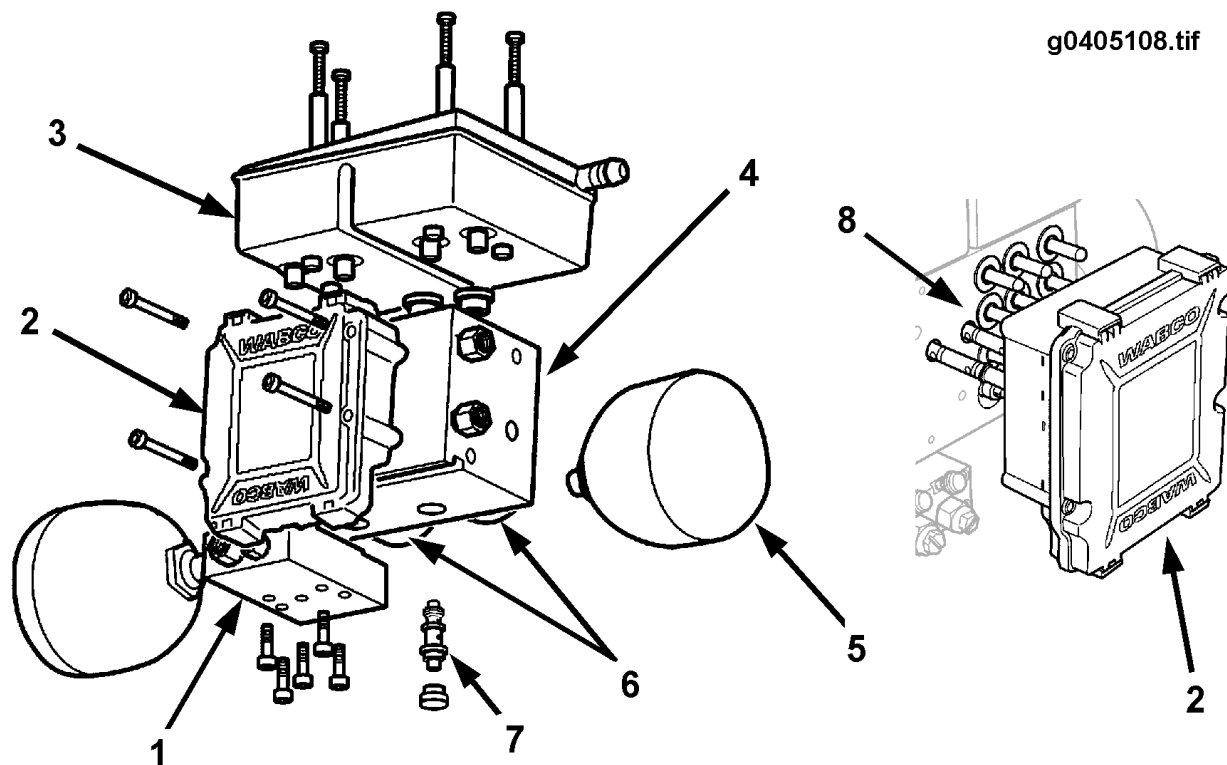
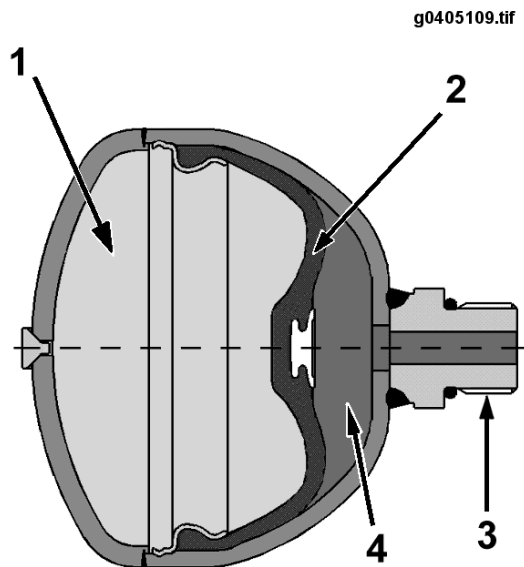

Figure 8 Hydraulic Compact Unit Exploded View
Figure 9 Cutaway View of Accumulator
Refer to FIGURE 8 for an exploded view of the HCU. The HCU is comprised of:
- A. the dual circuit relay valve (Figure 8, item 1)
- B. the Electronic Control Unit (ECU) (Figure 8, item 2)
- C. the HCU reservoir (Figure 8, item 3)
- D. the HCU body (Figure 8, item 4)
- E. two precharged accumulators pre-charged to 1087 psi (Figure 8, item 5; also refer to FIGURE 9) **(NOTE: The accumulators are physically mounted to the HCU, but may be replaced separately.)**
- F. two hydraulic pumps driven by electric motors (E-motors) (Figure 8, items 6 and 7)
- G. the ABS/ATC solenoid control valves (Figure 8, item 8)
H. the two pressure transducers (Figure 8, item 8)